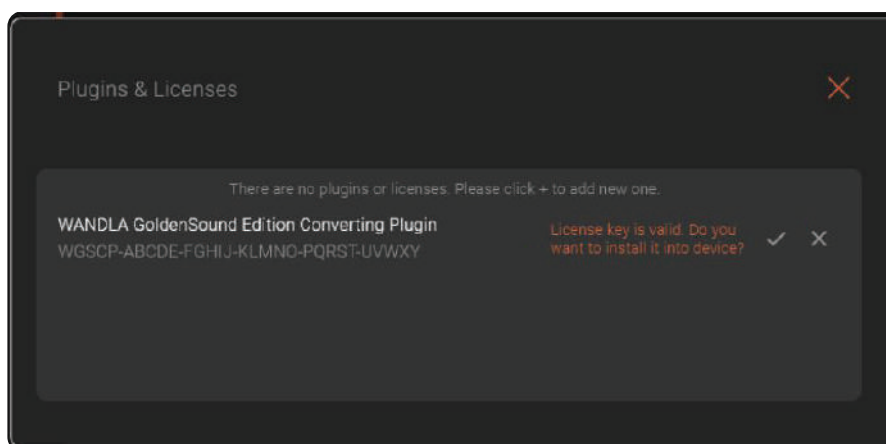

Figure 16
6. The license should be validated, and you'll be asked to install the plugin into device (Fig. 16).